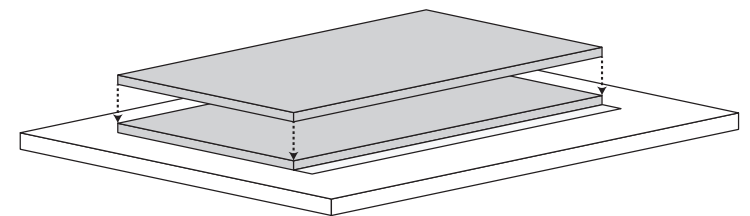

FIGURE 16.4
STEP 4 (FIGURE 16.4): Place the second board on top of the first board. Do not mortar the boards together.